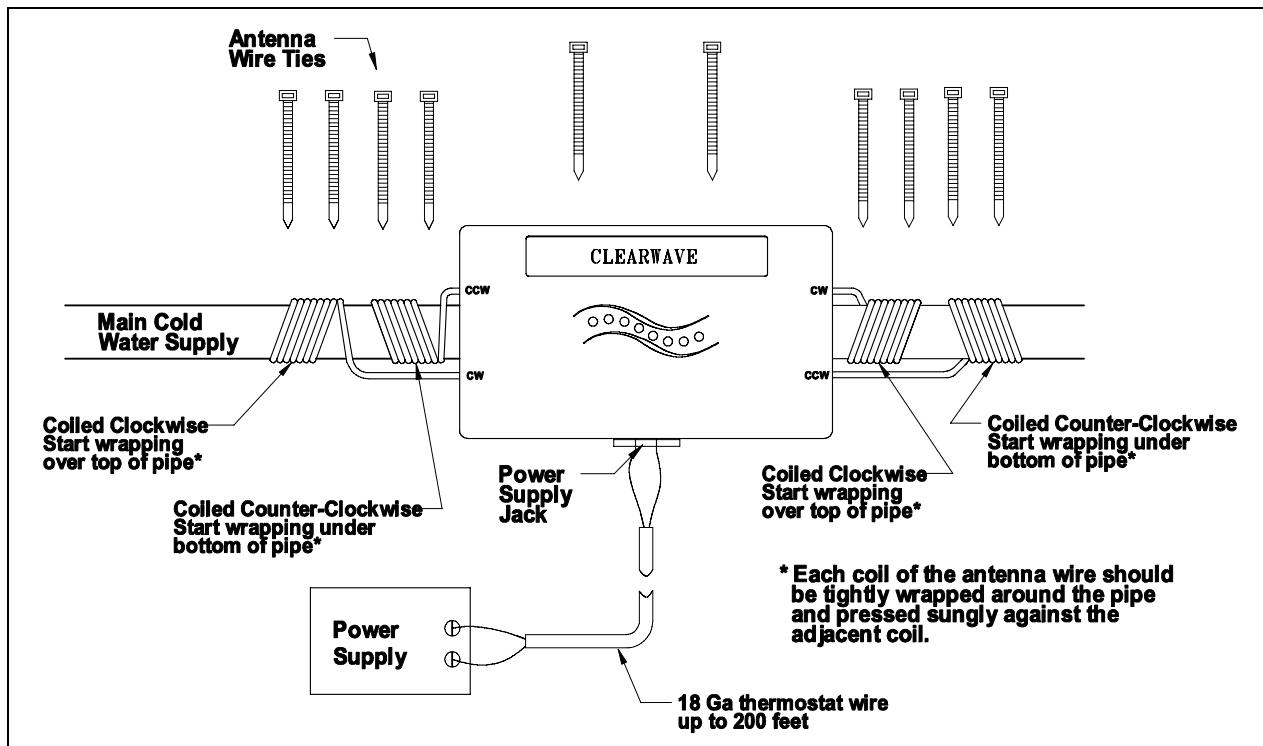
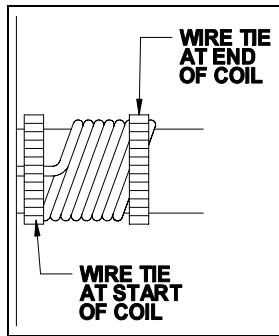
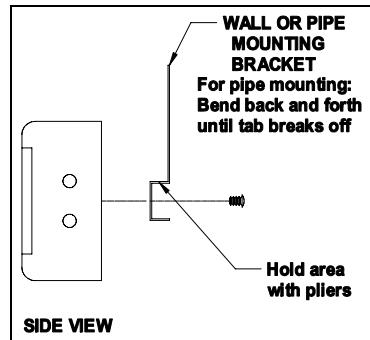

Figure 1
Figure 1A
Figure 2
1. One set of mounting brackets are provided, for mounting the ClearWave™ onto 1-1/2 inch to 4 inch water pipes or wall mounted near the selected pipe area. Mount the mounting brackets to the base of the ClearWave™ by using the screws provided. Mount the ClearWave™ onto the pipe with wire ties or to the wall with appropriate fasteners. (see Figure 1) For pipe mounting, the wall mount tabs should be removed from the mounting brackets. (see Figure 2)
The antenna wrap around the water pipe on each end of the ClearWave™ (see Figure 1). A minimum of seven fully wrapped coils of the antenna wire, with each coil wrapped tightly against the pipe and pressed snugly against each other is required for best results (see Figure 1A). Each wire coil should be spaced 1 inch to 2 inches apart. The operation of the ClearWave™ and the antenna installation is not based on direction of water flow, but one antenna MUST be wrapped in a clockwise direction and the other wrapped in an counter-clockwise direction.
1. On the right side of the unit wrap the first antenna onto the water pipe by securing the "CW" clockwise antenna to the water pipe next to the ClearWave™ housing with a wire tie. Wrap the right antenna clockwise (over the top of the pipe first), keeping the antenna wire tight against the pipe and the preceding coil. Secure the end of the antenna wire to the water pipe with a wire tie (see Figure 1A). Repeat wrapping the remainder of the antennas onto the pipe alternating the wrap direction (see Figure 1).
2. On left side of the unit wrap the first antenna onto the water pipe by securing the "CCW" anti clockwise antenna to the water pipe next to the ClearWave™ housing with a wire tie. Wrap the antenna counter-clockwise (Under the bottom of the pipe first), keeping the antenna wire tight against the pipe and the preceding coil. Secure the end of the antenna wire to the water pipe with a wire tie. Repeat wrapping the remainder of the antennas onto the pipe alternating the wrap direction (see Figure 1).